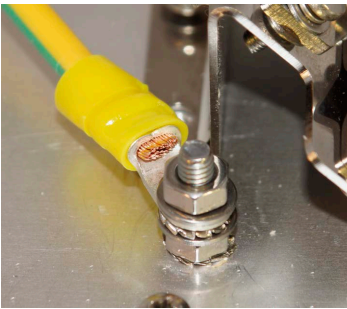

Figure 6: Grounding Bolt
**Note** The grounding strap must be as short as possible. If wire is used, use a minimum of 2.5 mm² copper wire. See *Figure 6: Grounding Bolt* on page 14.